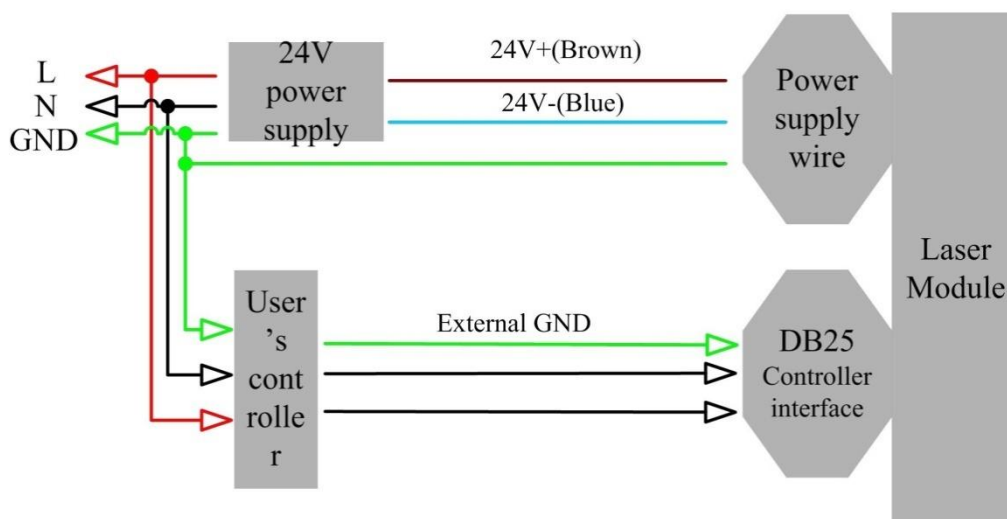

Figure 7. Wiring diagram of recommended electrical connection and power supply
- Make sure that the interface of the external controller matches the laser and the control cable is well connected to the laser's interface. The recommended electrical connection is shown in Figure 7.